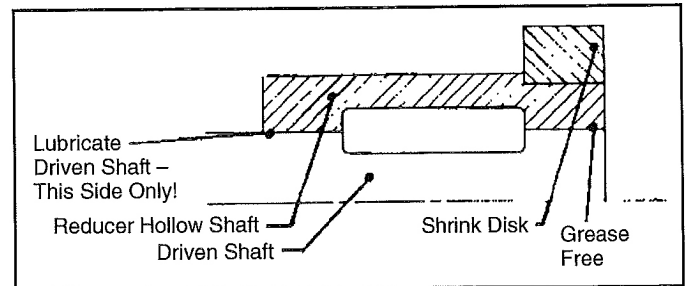

Figure 6
- Apply a lubricant to the surfaces of the hollow shaft and machine shaft for ease of installation. Do not apply grease to inside bore of the hollow shaft under the shrink disk. See Figure 6.